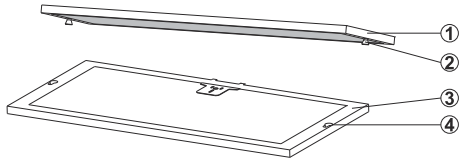

Fig. 6: Placing the active carbon filter
1. ➤ Removing the metal oil filters (Fig. 6).
2. ➤ Active carbon filter is placed on the rear side of the metal oil filter. Push it to the side to remove it. (Fig. 6).